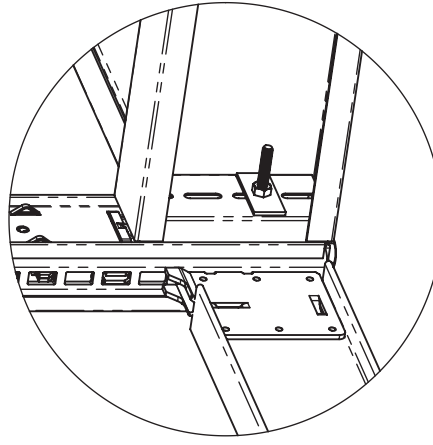

FIGURE 2
STEP 2: BOLT THE FIRST OBS TO THE FIRST UPRIGHT THROUGH THE BOTTOM SLOT (FIGURE 1), USING THE SCREW, PLATES AND NUT FROM HARDWARE PACK 7200-299. RAISE THE OBS UNTIL THE BOTTOM OF THE SLOT HITS THE SCREW BEFORE TIGHTENING SECURELY. (FIGURE 2)